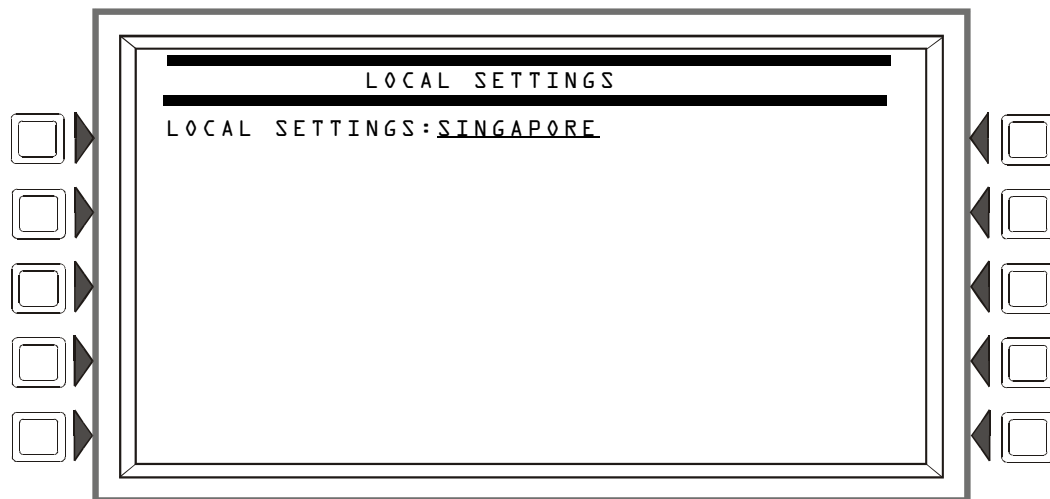

Figure I.1 Local Settings Screen
The panel programming LOCAL SETTING choices, available through the Panel Settings (2) screen (refer to page 23) are described below. The Local Settings screen (Refer to Figure I.1) allows scrolling through the available choices by pressing the soft key. Choices are Chicago, Singapore, or Default (no special local settings).